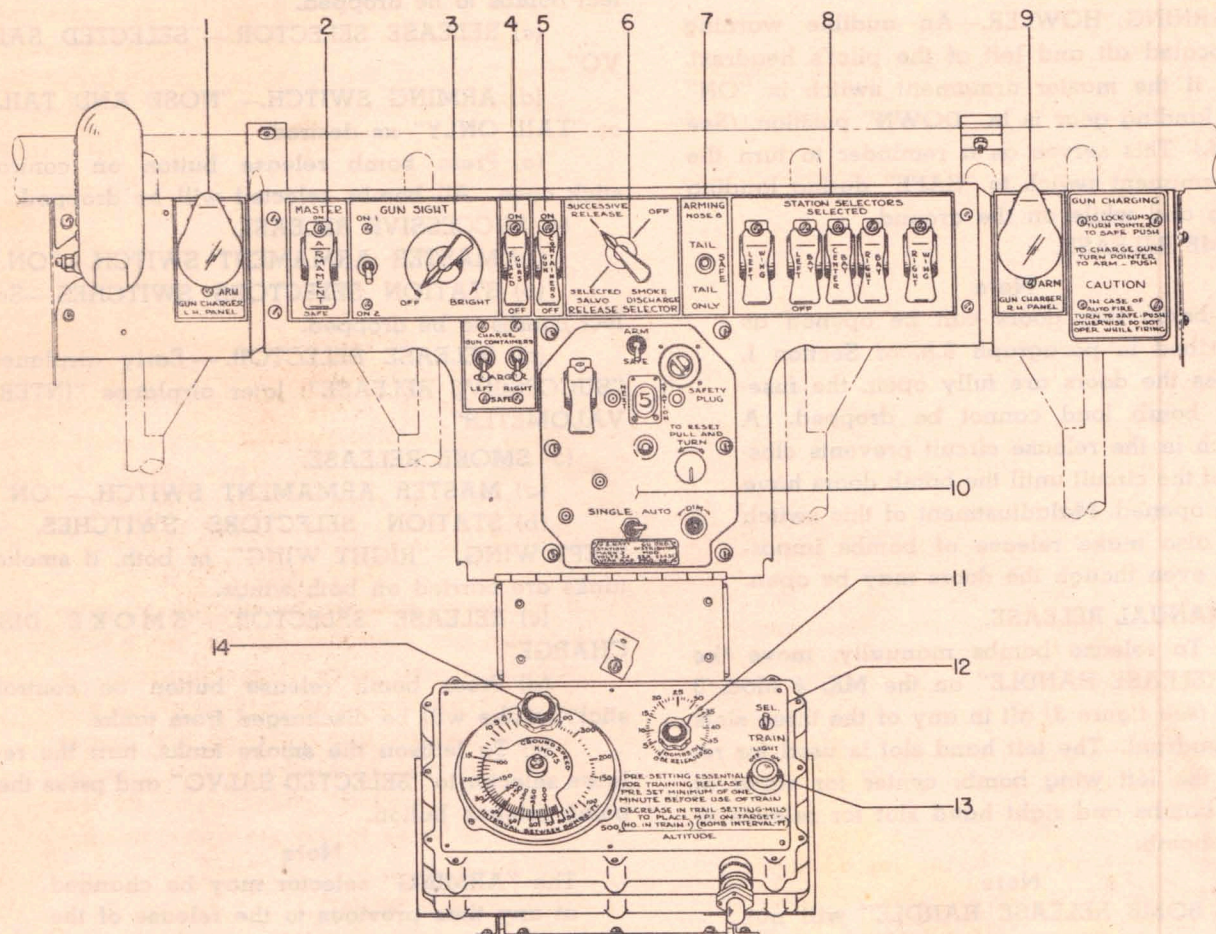

Figure 38—Armament Switch Panel
b. **ARMAMENT SWITCH PANEL.**—The armament switch panel is located just below the main instrument panel. (See figure 38.)
c. **MASTER ARMAMENT SWITCH.**—This switch (see figure 38) must be "ON" before bombs or torpedo can be armed and released electrically, the fixed cannon, rockets, or gun containers fired, and the gun camera operated. The master armament switch should be at "SAFE" at all times except when the use of some of the controls on the armament panel is intended.
(2) **ELECTRICAL RELEASE.**—Early airplanes have a "RELEASE SELECTOR" (see figure 38) with
four positions: "OFF", "SUCCESSIVE RELEASE", "SELECTED SALVO", and "SMOKE DISCHARGE". This control must be used in conjunction with the "STATION SELECTORS" switches (see figure 38), as with the latter switches "OFF", bombs cannot be dropped under any condition. A "STATION SELECTOR" control is provided for each bomb rack. On later airplanes the release selector has four positions indicated as "INTERVALOMETER", "OFF", "SELECTED SALVO", and "SMOKE DISCHARGE".
(6) **K-2 INTERVALOMETER AND SD STATION DISTRIBUTOR.** (See figure 38.)
Parts list for figure 38.
(1) The fixed guns (20 mm cannons, one in either side of the center panel) are fired by means of the trigger on the grip of the control stick. Two hundred rounds of ammunition per gun can be carried. Since the guns are fired electrically, the master armament switch and the "FIXED GUNS" switch (see figure 38), must be "ON".
(2) The fixed guns must also be charged before they can be fired. Two gun chargers, one for each gun, are located under the main instrument panel. (See figure 38.) To charge the guns, rotate the handles clockwise to the stops and push forward. Selective firing of the guns is accomplished by charging only the one to be fired.
(3) When the hydraulic pressure in the chargers reaches 750 psi, the handles will fly back to their original position. To release a dud or an unarmed shell, push the handle in as often as necessary. To return guns to "SAFE" turn the handle counterclockwise to stops and push forward. In the event of a hydraulic system failure the guns cannot be charged. If they have been previously charged and are on "SAFE" they may be recharged by rotating the handles clockwise to the stops, even though the hydraulic system has failed. In this condition the guns cannot be returned to "SAFE" nor will the chargers eject duds or jammed shells.
the desired intensity is obtained. If the gunsight lamp should burn out during operations, throw the adjacent "ON 1-ON 2" switch (see figure 38) to its opposite setting. The "ON 1-ON 2" positions are of equal intensity and it should be unnecessary to reset the "OFF-BRIGHT" control.
(1) The pilot's gun camera is located in the leading edge of the right center panel, outboard of the fixed gun. The camera is actuated electrically, being automatically controlled by circuits including a switch (see figure 38) located on the right console circuit breaker panel, the bomb release switch, rocket launching button, and the trigger type gun-firing switches on the control stick.
(2) The gun camera, when installed, operates whenever guns are fired, bombs are released, or rockets are launched.
(a) Be sure the "SAFETY PLUG" is fully inserted in the face of the MK-3 station distributor. (See figure 38.)
(c) Throw the "ON-OFF" switch (see figure 38) on the station distributor to "ON".
(d) Turn the "ARM-SAFE" switch (see figure 38) to "ARM".
(e) Operate the "TO RESET PULL AND TURN" knob (see figure 38) until the numeral "1" appears in the "NEXT STATION" window. (See figure 38.)
(f) If it is desired to fire a single pair of rockets or a series of pairs of rockets, throw the "SINGLE-AUTO" switch (see figure 38) to "SINGLE".